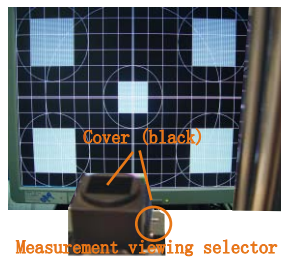

Fig. 2
- Set measuring/viewing selector to measuring position for reset analyzer. (zero calibration) as Fig.2